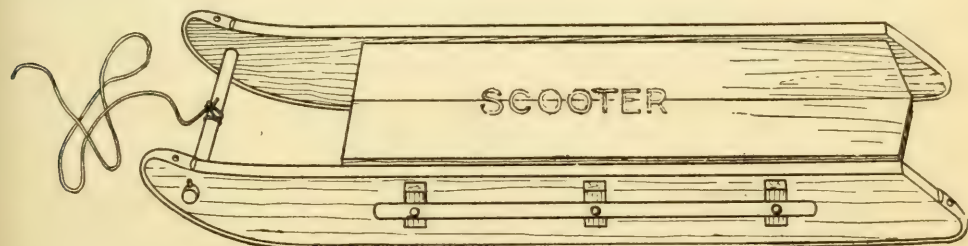
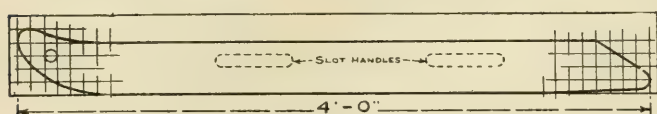

FIG. 368. — A Home-made Coaster.
FIG. 369. — Pattern for Runners.
**The Coaster** shown in Fig. 368 is simple to make, but in cutting out the various pieces and putting them together
**Lay out the Runners** by the pattern shown in Fig. 369. This has been marked off into squares, at the ends, to aid you in laying out the curves. Measure off the total length of the runner upon a 1-inch or  $1\frac{1}{4}$ -inch board,
**Sled Handles**, any one of which you may use. One of the simplest kind of handles consists of slots cut through the runners as shown in Figs. 369 and 371. The slots should be cut as described on page 142 (see Fig. 156). To make the handle shown in Fig. 368, cut two pieces of broom-handle 28 inches long and four wooden blocks 2 inches square; nail two of the blocks to each runner, then bore  $\frac{5}{8}$ -inch holes through the broom-handle pieces and through the blocks and runners, and bolt the handles